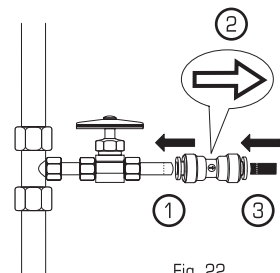

Fig. 22
6. **Connect** the tube from the cold water supply to the screen side of the Supply Connector **1**. Arrow in balloon shows water flow direction **2**. Insert the RED tube attached to the Auxiliary Faucet into the opposite end of the Supply Connector **3** (Fig. 22).